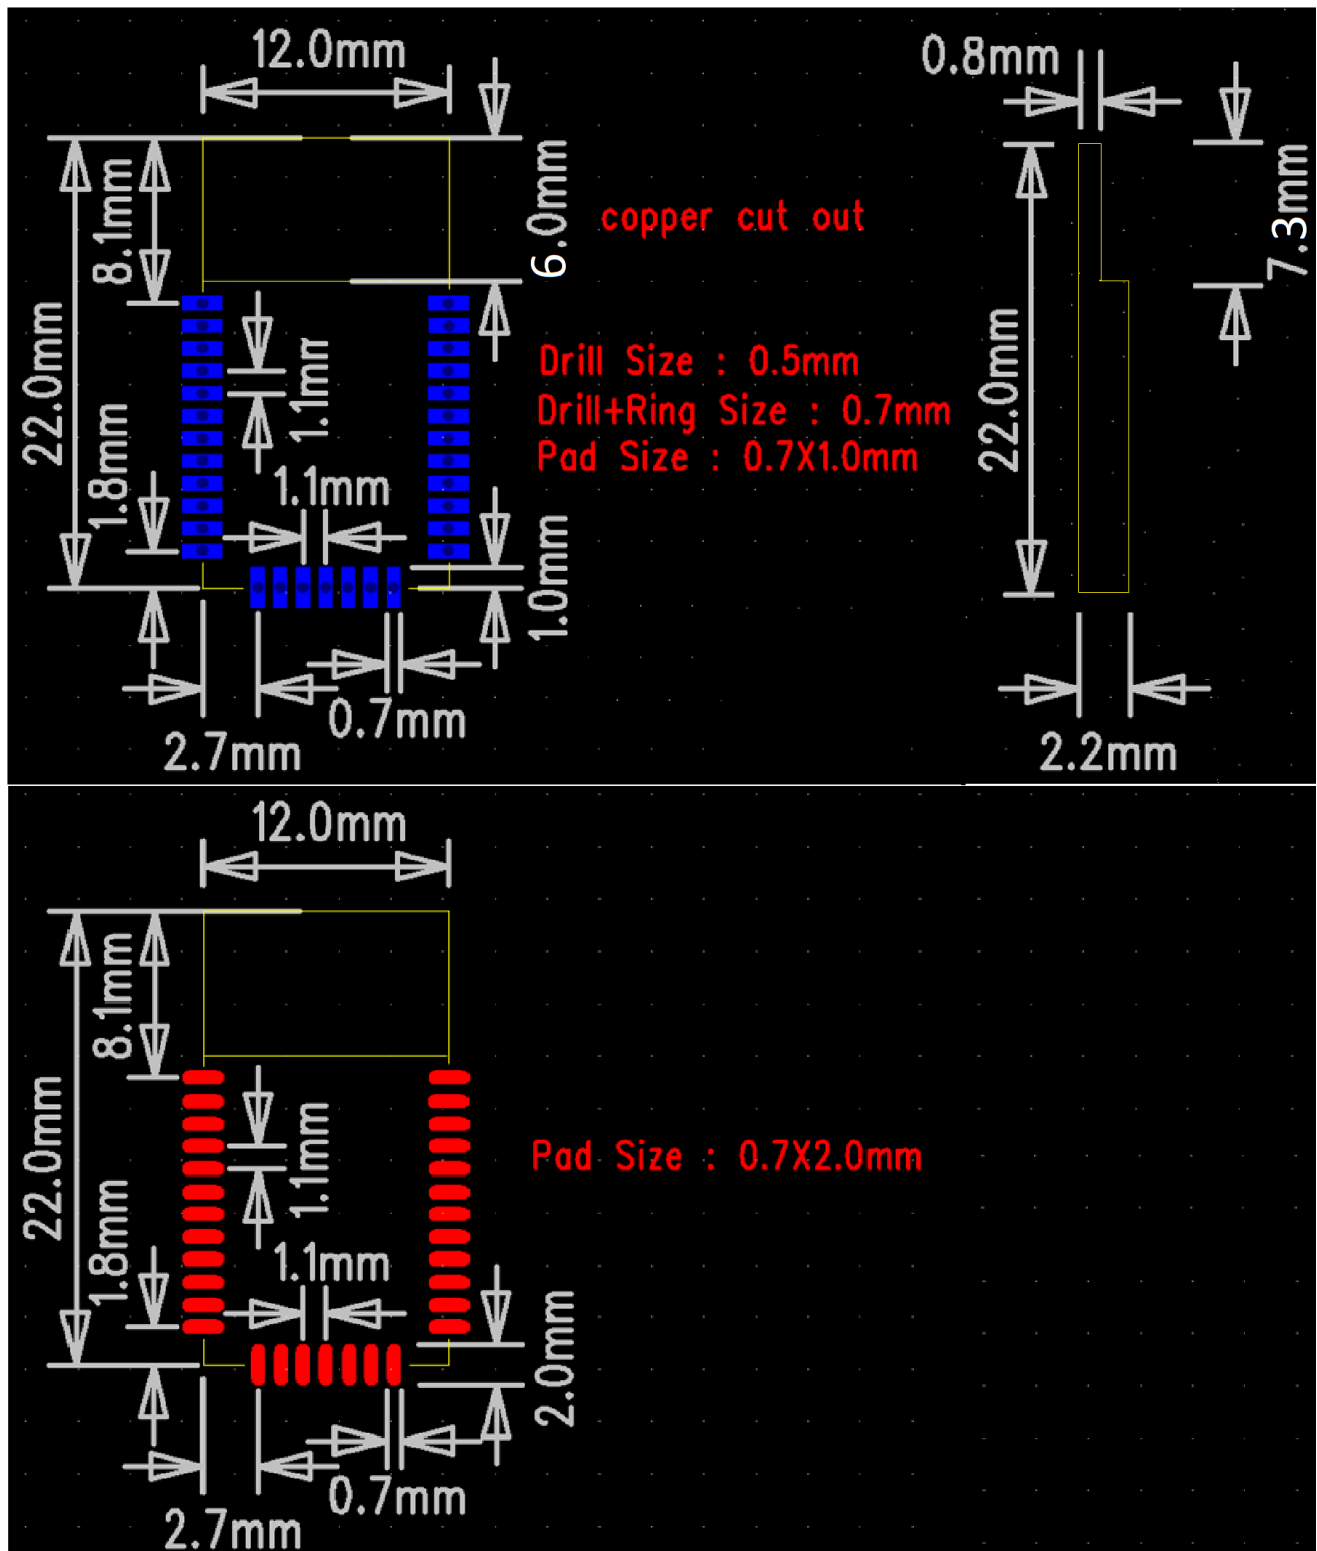

Figure 8: Mechanical Size and Recommended PCB Footprint
1. No ground below antenna region (copper cut out in Figure 8) of the FMB121.